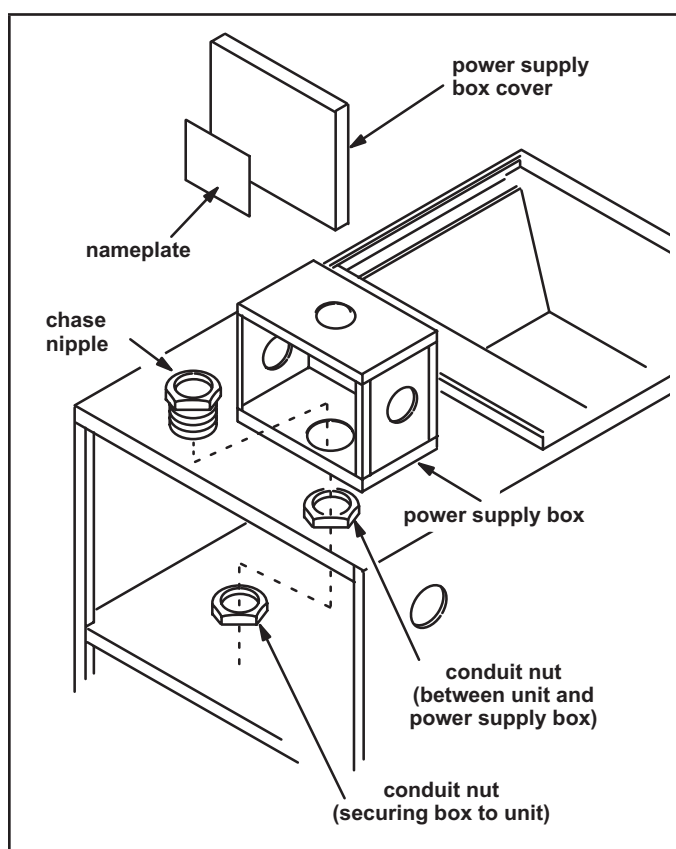

FIGURE 1. Single Point Power Supply Junction Box Installation
- 3 - Insert chase nipple through the hole in the unit cabinet and use the second conduit nut to secure the power supply junction box to the unit. See figure 1.